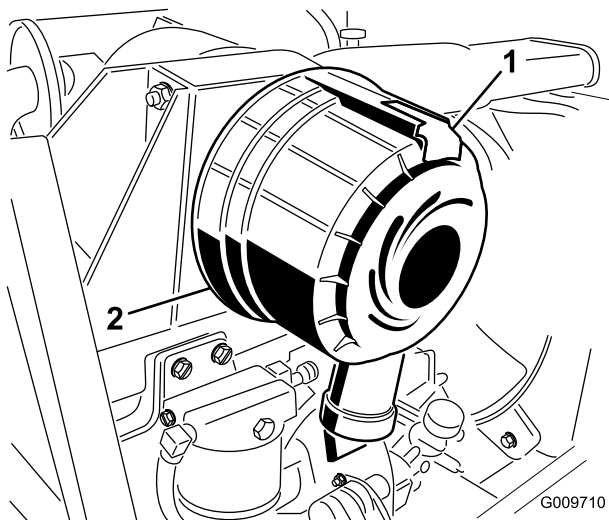

Figure 34
1. Pull the latch outward and rotate the air-cleaner cover counterclockwise (Figure 34).